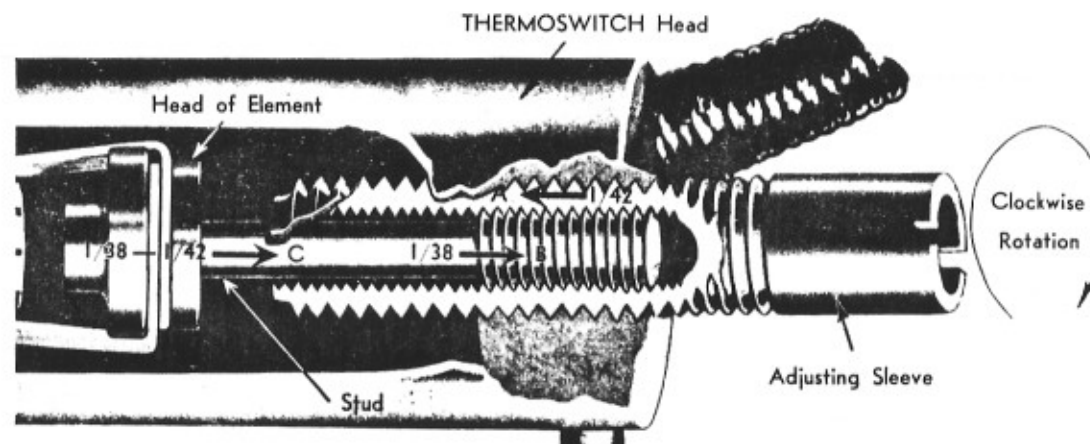

Figure 172
**TEMPERATURE ADJUSTING SLEEVE:** Refer to Figure 172. These switches are adjusted by rotation of the adjusting sleeve, a hollow screw having different internal and external thread ratios.